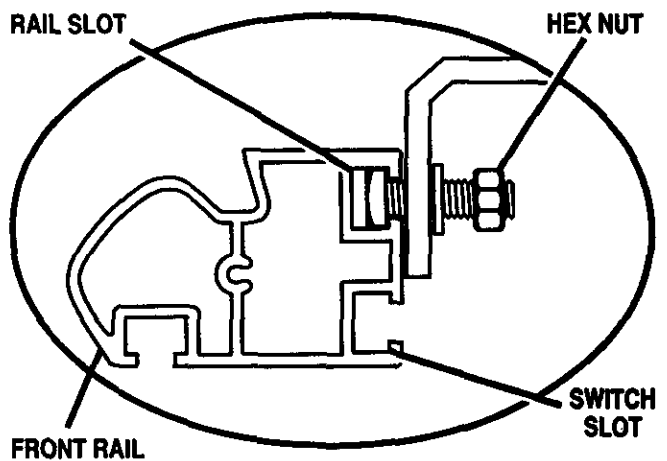

Fig. 16
- The back of the rail has two slots. See Figure 16. Slide the upper slot over the bolts. (Bottom slot is for switch.)